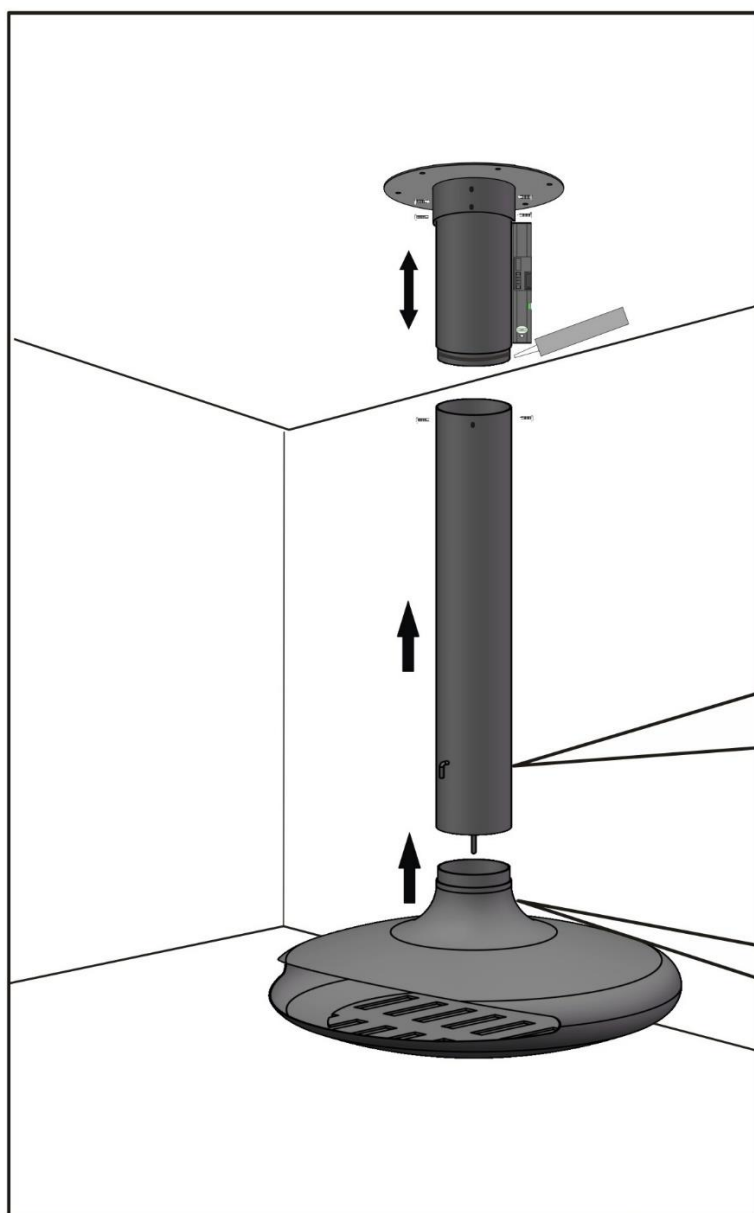

Figure 4
(3) Adjust the chimney to the required length, level the chimney and screw to the flange as shown in Figure 4.
(5) Seal the joint with high temperature resistant sealant and screw the chimney in place as shown in Figure 4. Fit the fireplace in position and tighten screws as shown in Figure 5. Adjust the position of the fireplace body and confirm that it can be rotated forward and backward.